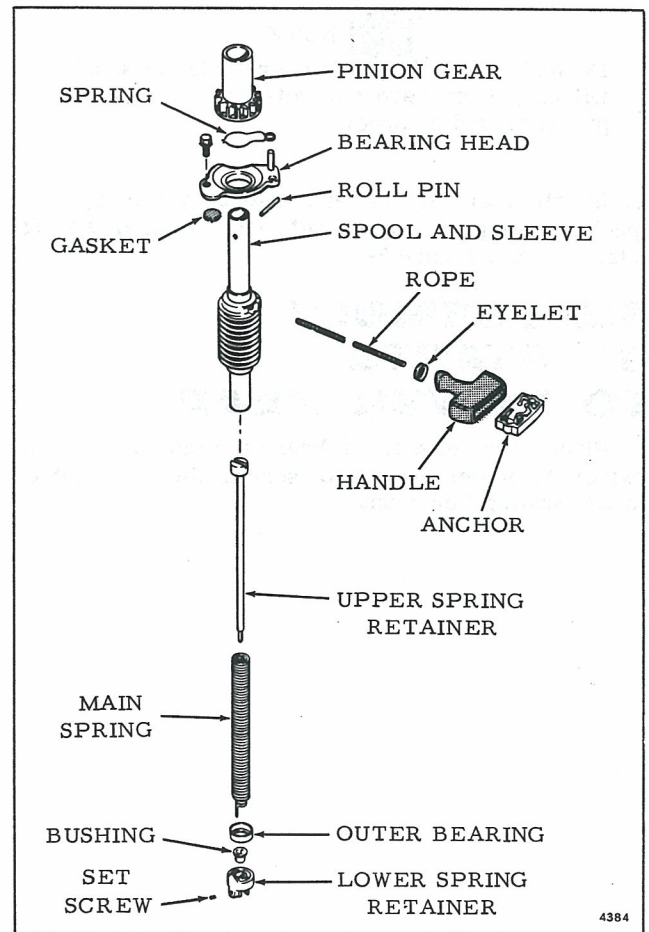

Figure 7-8. Starter Components
spring assembly from spool. Remove set screw to release lower spring retainer, bushing, and outer bearing from spring. See Figure 7-8.
- c. Install main spring and insert into bottom of spool, twisting to engage with end of upper spring retainer. See Figure 7-8.